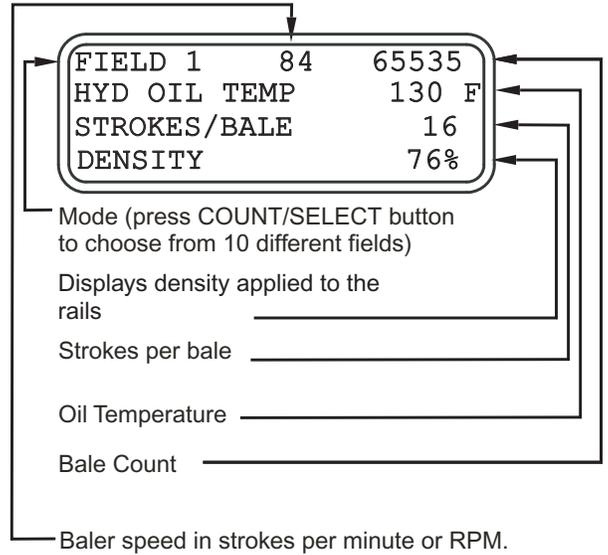

Figure 18 - Baling Screen
- Bale (see Figure 18)
The high temperature warning can be adjusted by pushing RESET quickly for up and COUNT/SELECT for down. Push and hold RESET to save and exit the screen. Warning will signal on the bale screen when your preset temperature is exceeded (see Figure 18 & 19).